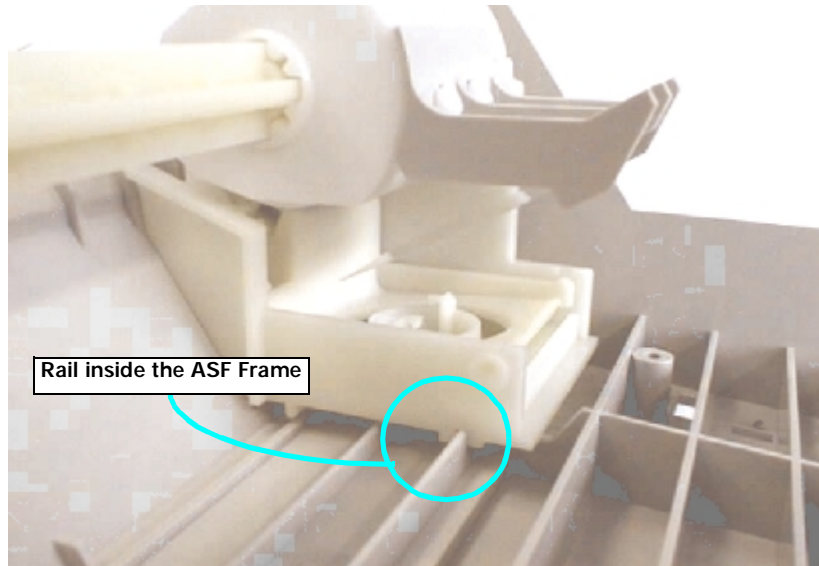

Figure 4-32. LD Roller Assembly Installation Point
- Make sure the LD Roller Assembly is installed firmly to the rail of the ASF Frame. (Refer to Figure 4-32.)